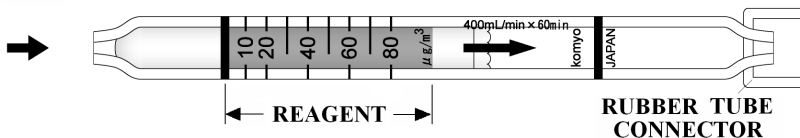

Fig.1
- ② Connect the detector tube into the rubber tube connector of the Model S-20 series air sampler as shown in Fig. 1 (Arrow mark shall point to the sampler.), and fix it into the detector tube holder.
- ③ Turn ON power of the air sampler.
- ④ In accordance with the instruction manual of each air sampler, preset the TIMER (Hours) at 60 minutes and adjust the sampling flow rate at 400mL/min.
- ⑤ After completion of sampling (60 minutes), remove the detector tube from the tube holder and read the scale at the maximum point of a stained layer.